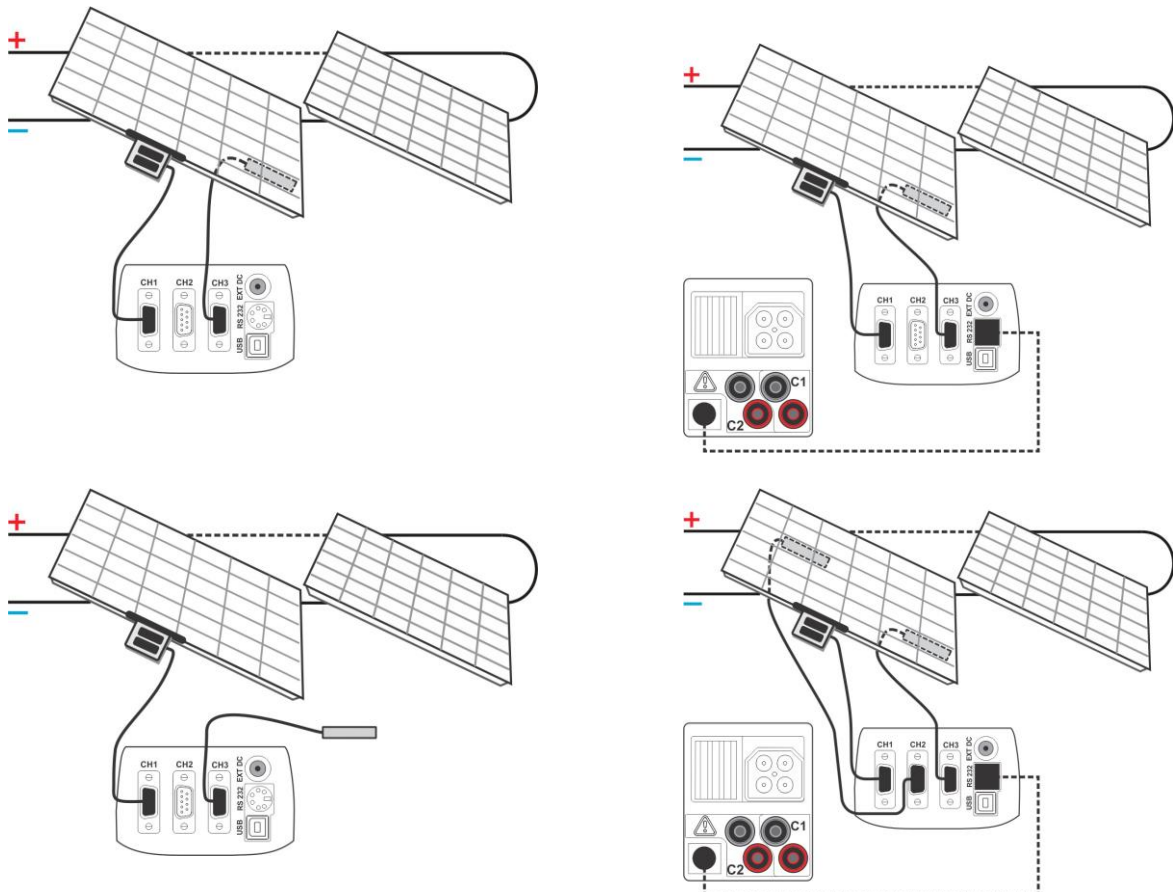

Figure 5-2: Measurement of environmental parameters
- ❑ **Connect** the probes to the item to be tested (see figure 5.2).